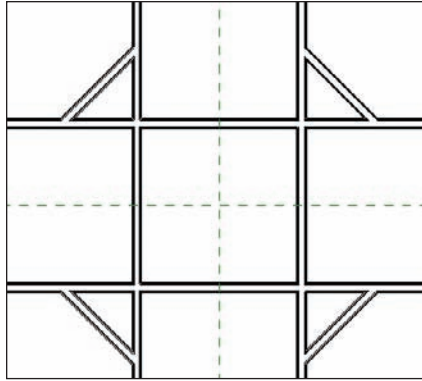

FIGURE 2.44 Stuck inside these four walls
4. Select the two 45° walls, and mirror them around the horizontal reference plane. You should now have four 45° walls, as shown in Figure 2.44.